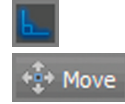

FIGURE 10.5 Centering the text within the rectangle by moving it upward
10. Click the Move tool on the Modify panel, select the Office text object, and press Enter. Click an arbitrary point on the drawing canvas, move the cursor upward from that point, type 2 (or 5 for metric), and press Enter. The text moves up so that the word *OFFICE* is centered within the rectangle (see Figure 10.5).